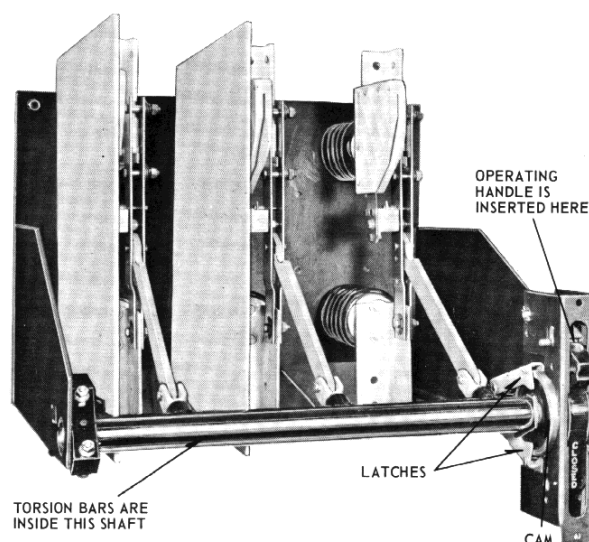

Figure 3
- (ii) In order to check adequate auxiliary blade engagement lift latches off the mechanism cam (see Fig. 3)